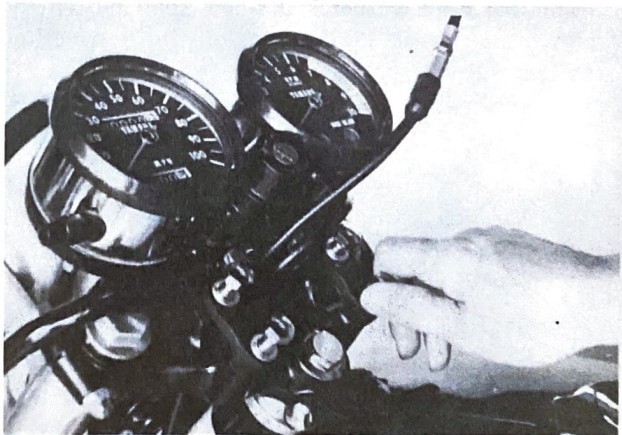

Fig. 16
12. Remove the four hexagon bolts, and remove the two handle upper holders. (Fig. 16)